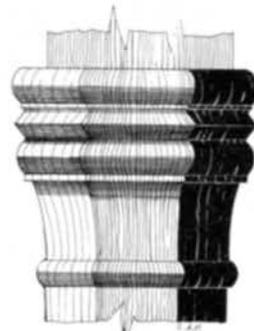

FIG. 5
**CREPPING HALL**, Wakes Colne, Essex (1). This aisled hall was described thus by Morant: "In Edward the Confessor's reign [1042-1066], it belonged to Alouard, and others: but, at the time of the general survey, to Richard Fitz-Gilbert, Lord of Clare." The oldest part of the house has one principal post. Since this shaft (including a wooden plinth) is octagonal between the base and the capital, the astragal has an octagonal plain roll beneath the curved-out bell; the top is two half-round rolls flanking one acute fillet (Fig. 5) with no abacus surmounting. These moldings, a late Anglo-Saxon style, are used vertically in Fyfield Hall (Fig. 1); other examples are in Winchester Cathedral, ca. 1170-1190. Crepping Hall also has two arcade plates with their "scarfs" halved and pegged, as in Fig. 6, an example actually drawn from Lampett's Farm, Fyfield.